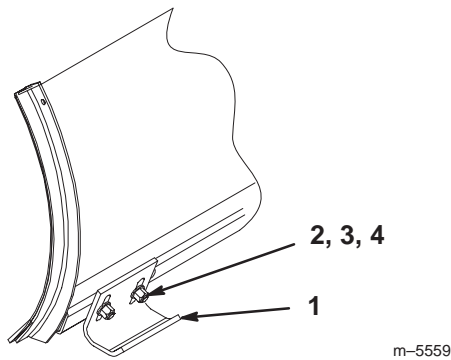

Figure 5
- Attach the skids to both sides of the blade with 4 carriage bolts (3/8 x 1 inch), flat washers (3/8 inch), and locknuts (3/8 inch) (Fig. 5).